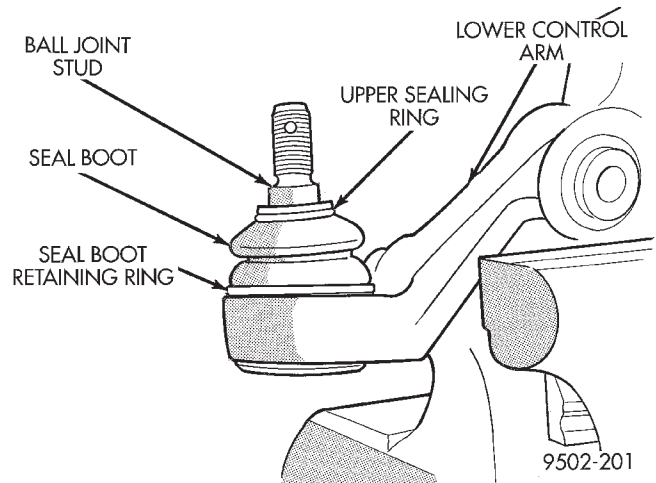

Fig. 86 Properly Installed Ball Joint Seal Boot
(8) Remove Installer, Special Tool, 6875 from the ball joint seal boot. **When removing tool from seal boot be careful not to damage the seal boot with the tool.**
(9) Check retaining ring installation on seal boot to ensure it is fully seated in seal boot groove and the ends are not twisted (Fig. 86). Also, make sure upper sealing ring is on seal boot and correctly installed (Fig. 86). Check seal boot for damage before installing back on car.